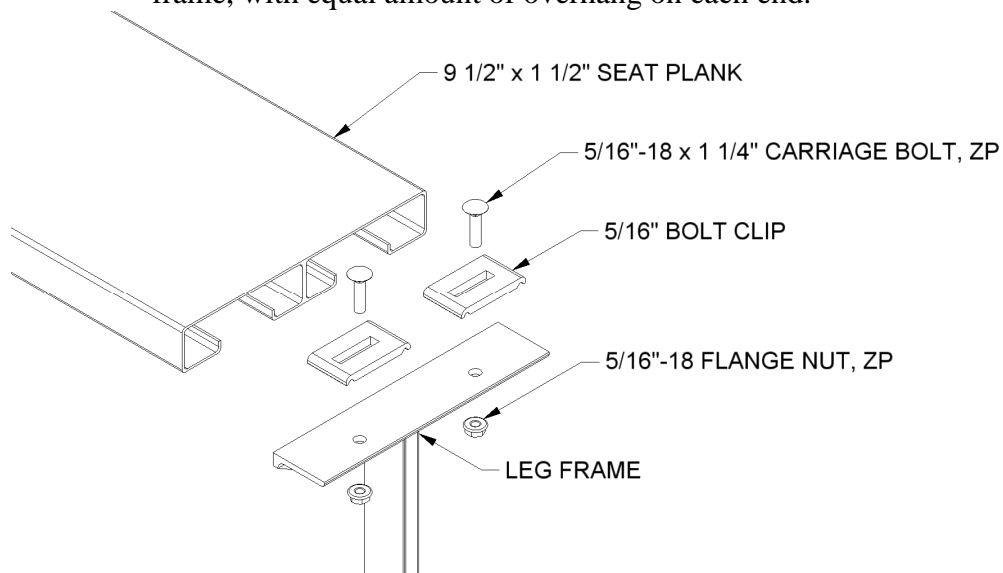

FIGURE: 3
3. Making sure the undercarriage frame is square and plumb, install the seat and foot planks. The seat and foot planks are best installed starting from the front seat and working towards the back. Use the hardware and bolt clip as shown in figure 3 & 4. Position planks so they are centered on the frame, with equal amount of overhang on each end.